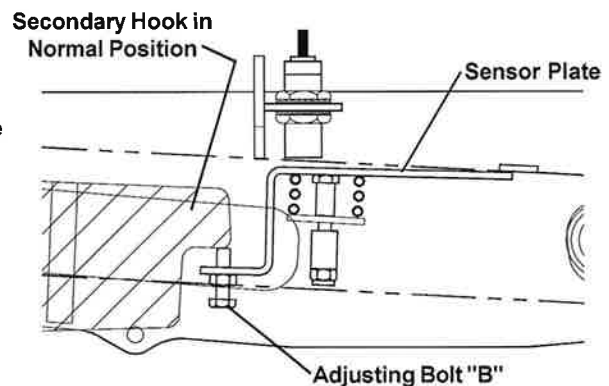

Fig 3. LS4 Adjustments
- d) Adjust ICC bar sensitivity with adjusting bolt "B". (Fig.3) Note: the actual bolt position will vary. The proper setting is when the flashing amber light on the control panel turns OFF when the secondary hook is depressed 1/16". To increase sensitivity, loosen (turn CW) adjusting bolt "B". To decrease sensitivity, tighten (turn CCW) adjusting bolt "B".